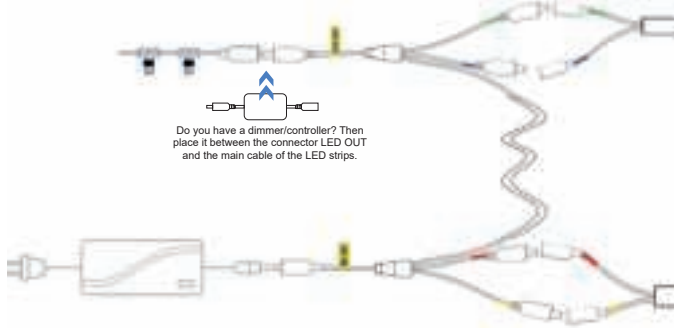

Fig. 5
- At the top of the stairs, connect the 'LED OUT' connector of the sensor cable to the main cable of the Led strips (see Fig. 5). Finally, connect the 'AD IN' plug to the adapter.**